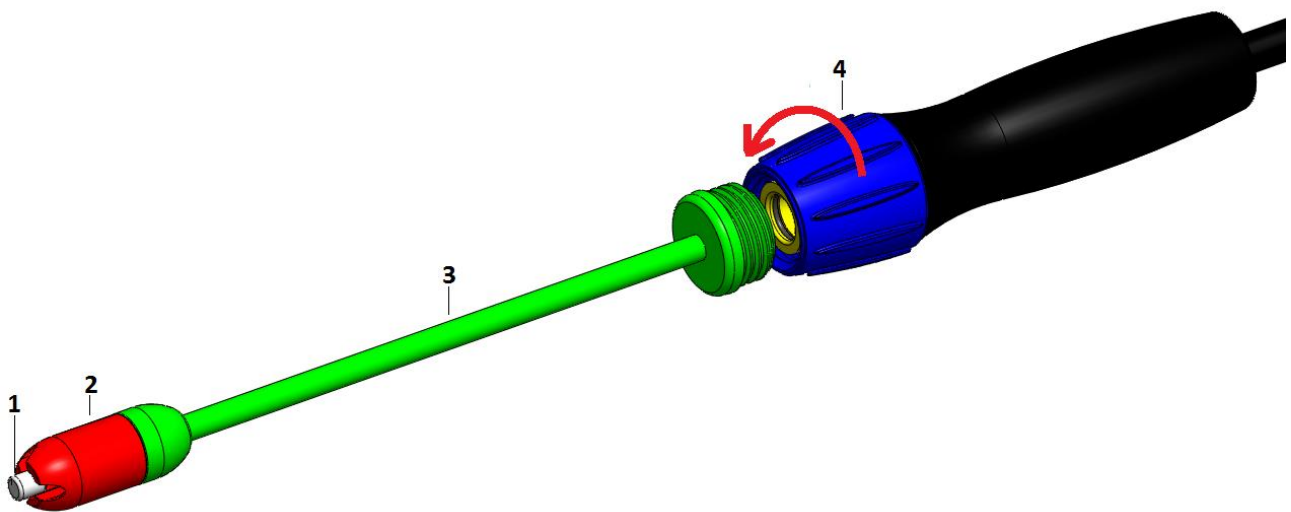

Figure 4
3. Then press vertically on the Event Tap until the activator (1, Fig.4) moves, there by opening the valve Figure 3 B.
Valve (1+2), Pipe (3) and Handle (4), see Figure 4. Both the handle, and the valve are units with specific functions and each is built of several parts. Units can be disassembled as shown in the subsequent figures: